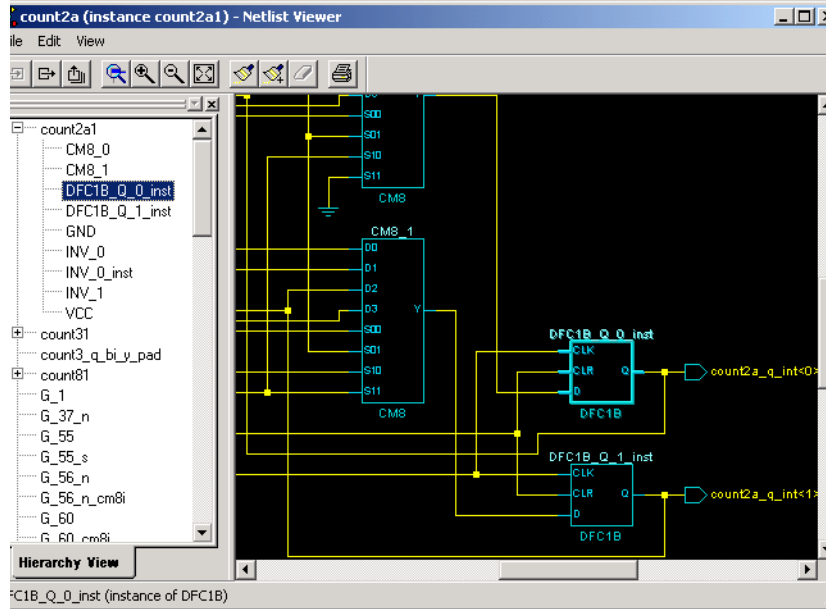

Figure 2-7. Hierarchy View Window
- 2. Select an instance name in the hierarchy.** The instance is located and highlighted in the Schematic Viewer, as shown in Figure 2-7. All parents as well are selected. Since any item selected in one window is selected in all,